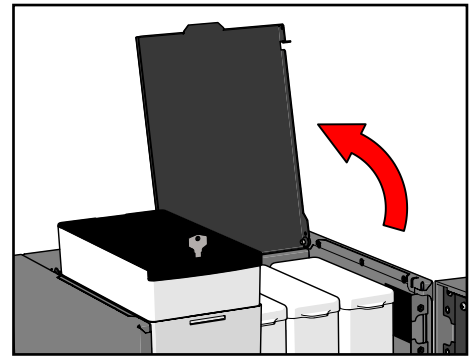

Figure 51.
3. Open the top cover (see Figure 51).